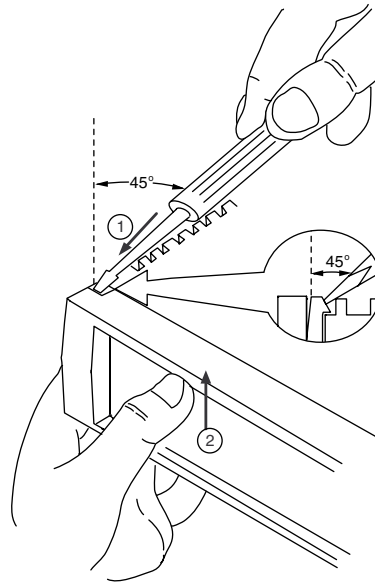

Figure 3-7. Removing Top Cover
2. Lift the front end of the unit with one hand and insert your thumbnail into the slot separating the front bezel and top half of the unit. (See Figure 3-7.)
3. Take a small flathead screwdriver in your free hand, and insert it behind one of the front edge corner tabs at a 45 degree angle (as shown in Figure 3-7). Press the tab outward, away from the unit, while pressing thumbnail upward until the top cover disengages from the interlocking tab.